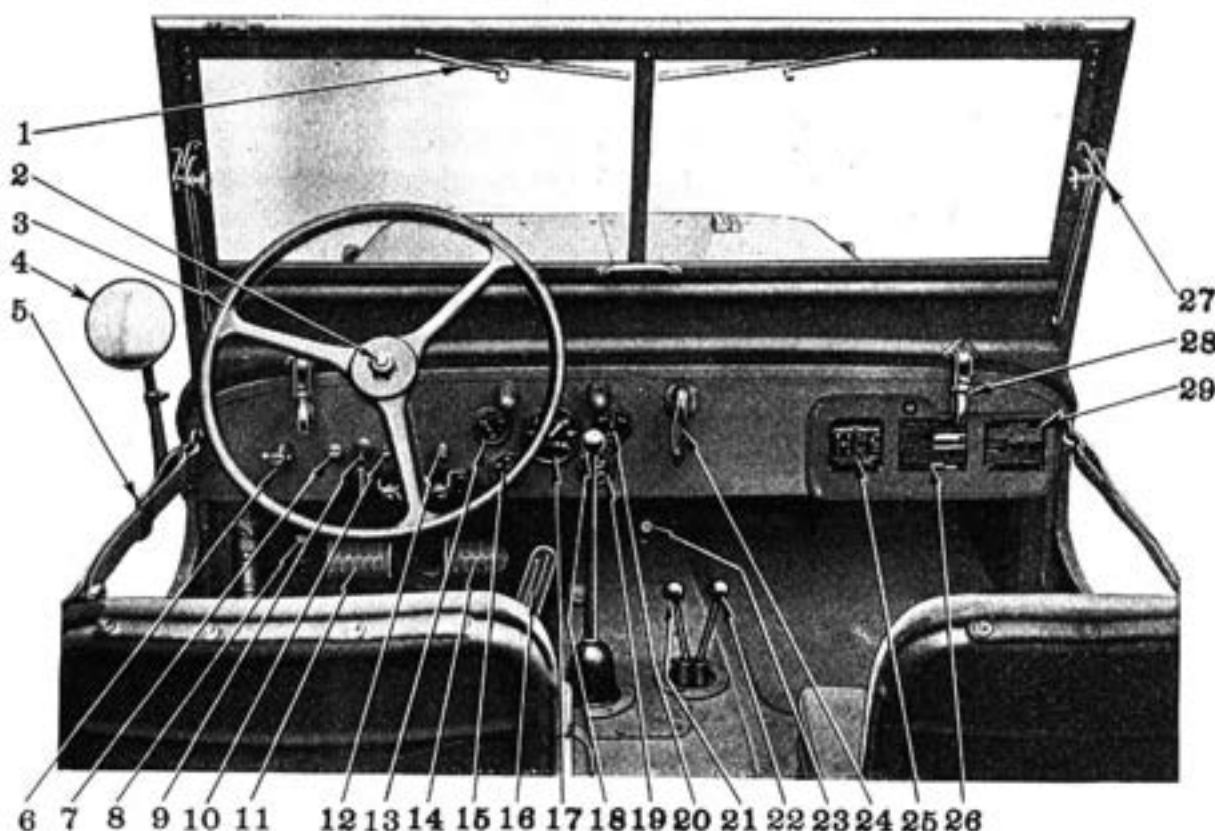

FIG. 1—CONTROLS
### Ignition Switch—No. 9, Fig. 1
### Light Switch—No. 6, Fig. 1
### Panel Light Switch—No. 12, Fig. 1.
### Head Lamp Beam Control Switch—No. 8, Fig. 1
### Starter Switch—No. 23, Fig. 1
### Hand Throttle—No. 10, Fig. 1
**Carburetor Choke Control—No. 7, Fig. 1**
**Oil Gauge—No. 15, Fig. 1**
**Ammeter—No. 20, Fig. 1**
**Fuel Gauge—No. 13, Fig. 1**
**Temperature Indicator—No. 19, Fig. 1**
**Speedometer—No. 17, Fig. 1**
The nomenclature plate identifies the vehicle and gives the manufacturer's model and serial number, date of delivery, recommended fuel and lubricating oil. Service publication numbers are also given for reference. (When ordering parts be sure to give serial number). See No. 26, Fig. 1.